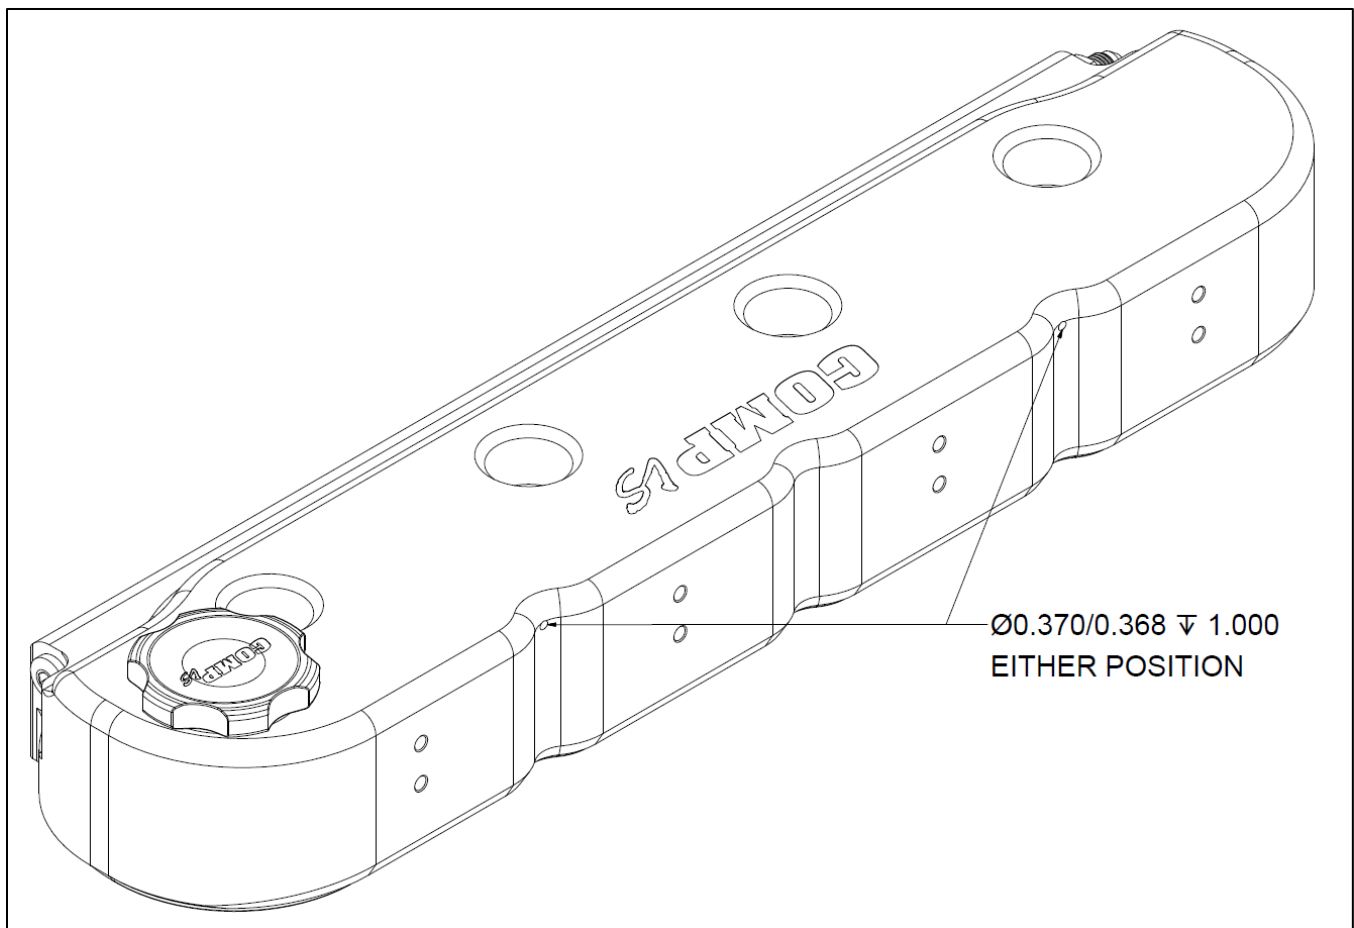

Figure 2 - Vent Tube Drilling Locations and Sizing
- If vent lines or connection to a PCV system are desired, the valve covers can easily be drilled to accept the included 3/8” vacuum tubes (P/N 54092VT). There are 2 center drill marks near the top, back side of each valve cover. Drill in the desired location according to Figure 2 below.